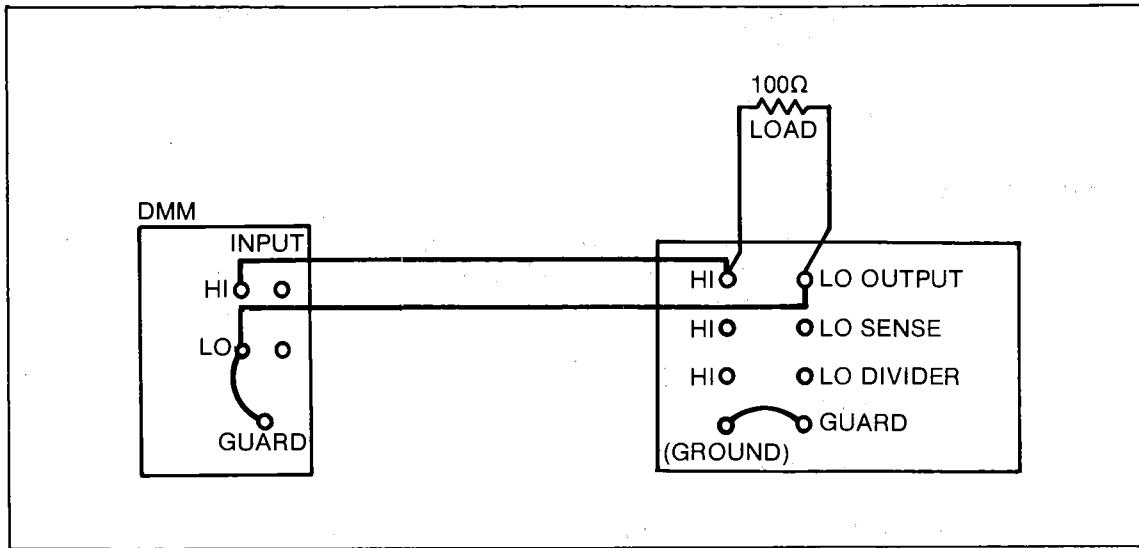

Figure 3-6. Current Limit Test
2. Connect the equipment as shown in Figure 3-6, but with the load disconnected.
4. Allow 5 seconds for the output to settle, then apply the load as shown in Figure 3-6. Verify that the output does not trip.
6. Allow 5 seconds for the output to settle, then apply the load as shown in Figure 3-6. Verify that the output does trip.